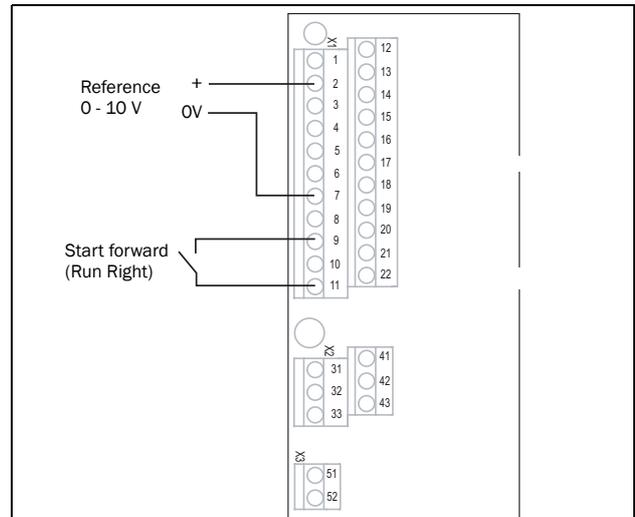

Fig. 14 Wiring
Here you will make up the minimum wiring for starting. In this example (Fig. 14) the motor/VSD will run with right rotation (clockwise).
1. Connect a reference value between terminals 7 (Common) and 2 (AnIn 1) as in Fig. 14.
2. For remote control, remove the jumper and connect an external start button between terminal 11 and 9 as in Fig. 14. If you would like the motor to run left, use terminal 11 and 8 instead.